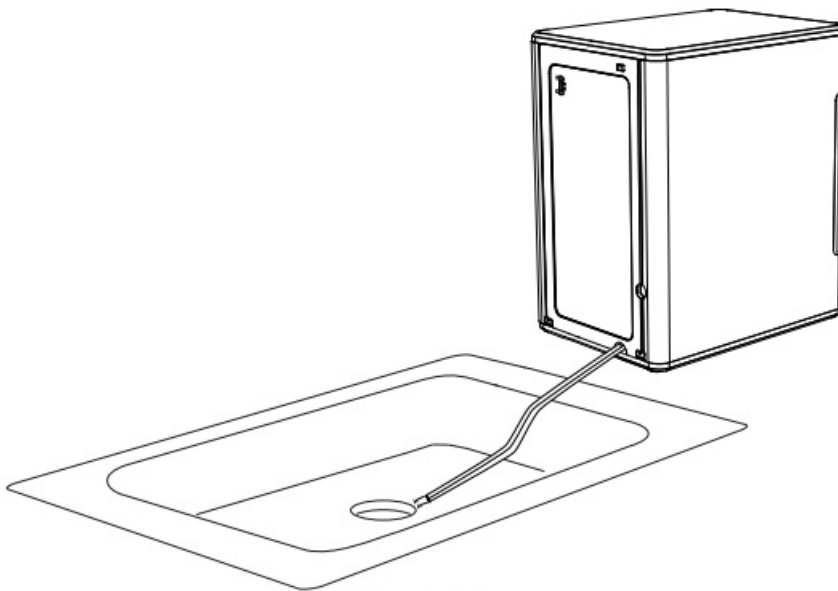

Figure 9
11. Then lay them down to drain into a sink or bucket that is below the level of the ice maker. See figure 9 and 10.